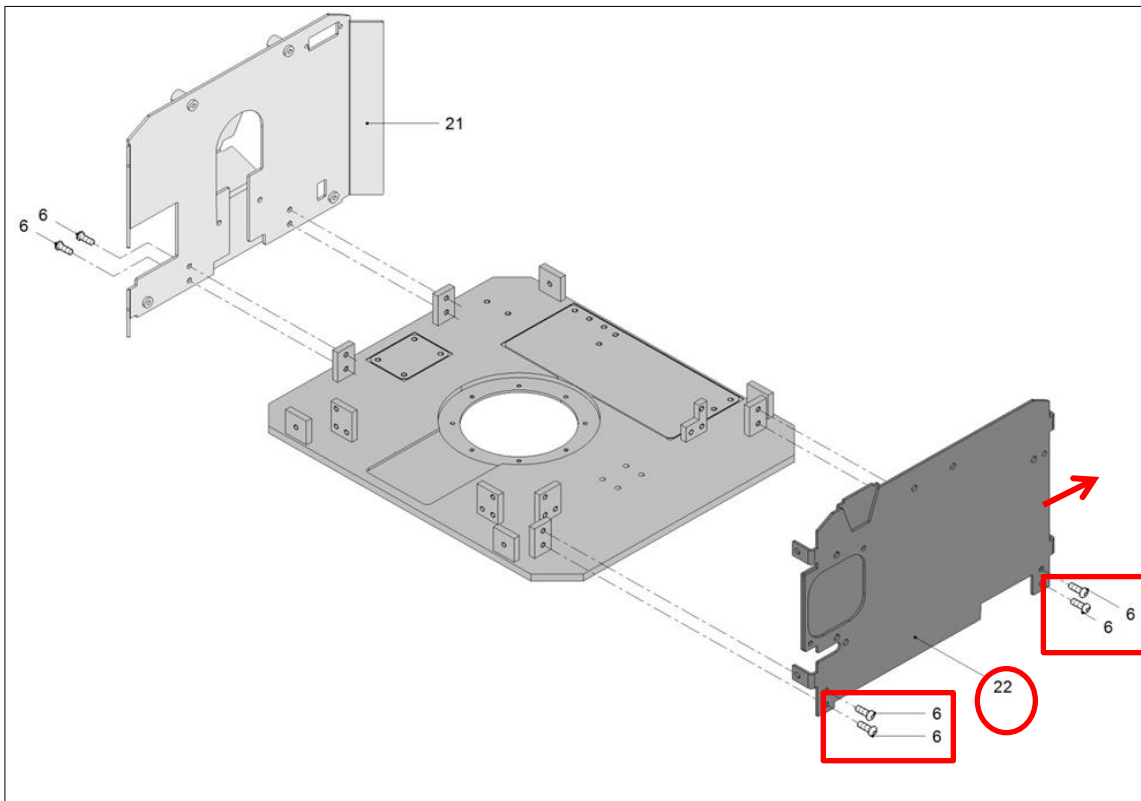

Fig 2
3. Disconnect the switch connector **CN2** from the board; remove the screws n.6 as shown in fig. 2 and move aside the front plate n. 22.